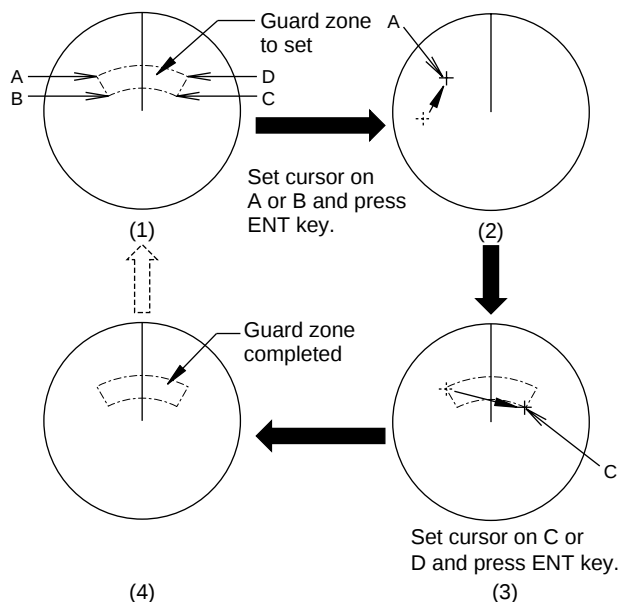

Figure 2-19 How to set the guard zone
6. Referring to Figure 2-19 on the next page, operate the omnipad to set the cursor on point A or B. Press the [ENT] key. "*G (IN)" or "*G (OUT)", with asterisk blinking, appears at the top right-hand corner of the display. The asterisk indicates the guard zone is partially set.